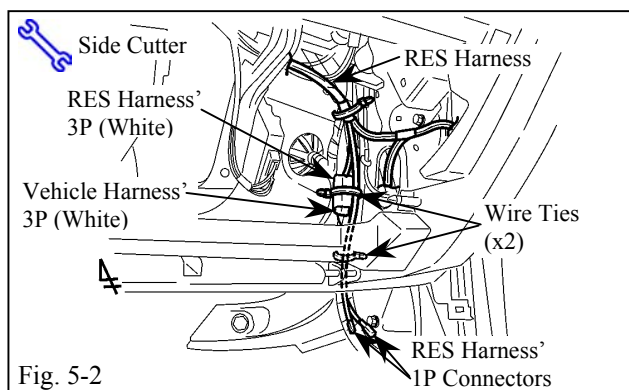

Fig. 5-2
- (b) Plug in the RES harness' white 3P connector to the vehicle harness' white 3P connector. Secure the 3P connector to the vehicle harness with one wire tie. (Fig. 5-2)
- (c) Secure the RES harness to the vehicle harness with one wire tie. (Fig. 5-2)